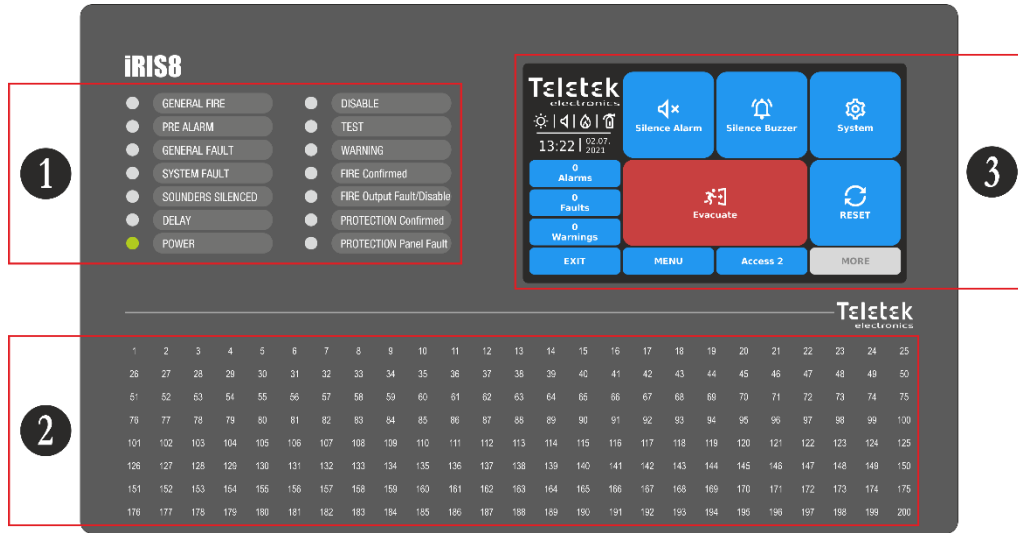

Figure 12
The front panel of iRIS8 presents detailed information of the current system status (1) and activated zones (2) via LED indication. The operation, control and programming of the panel is via the TFT screen (3) – Figure 12.